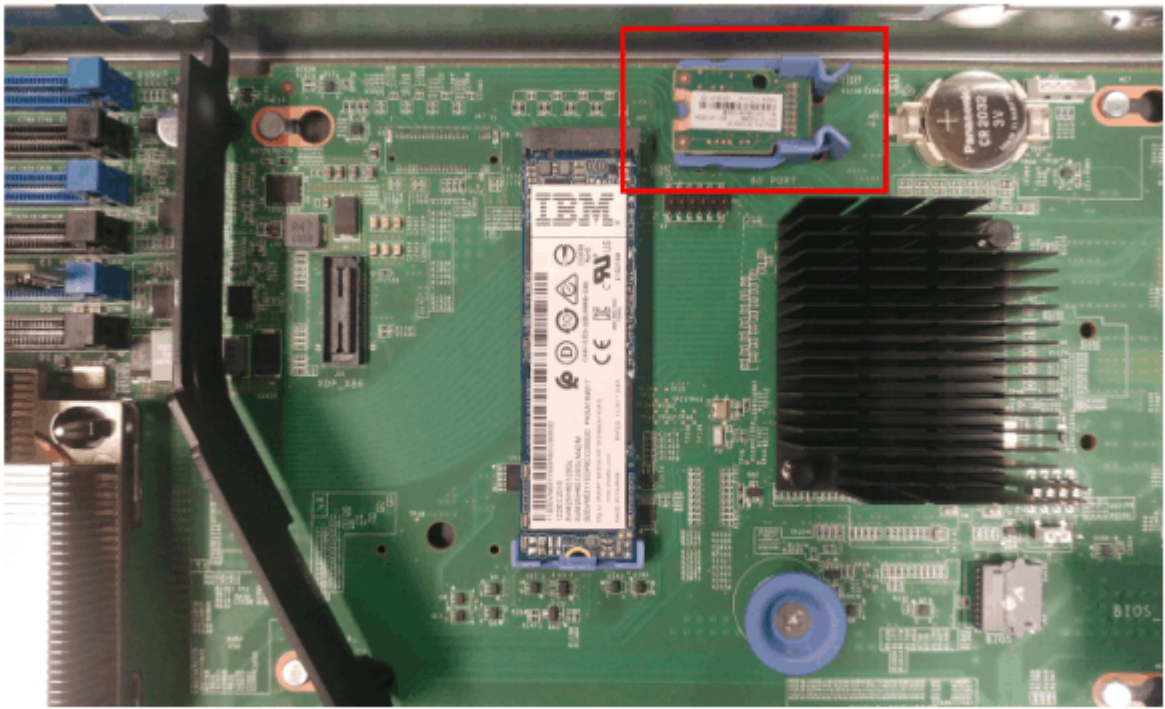

Figure 89. Locating the TPM
6. Locate the TPM, which is between the boot drive and CMOS battery, as shown in Figure 89 on page 143.